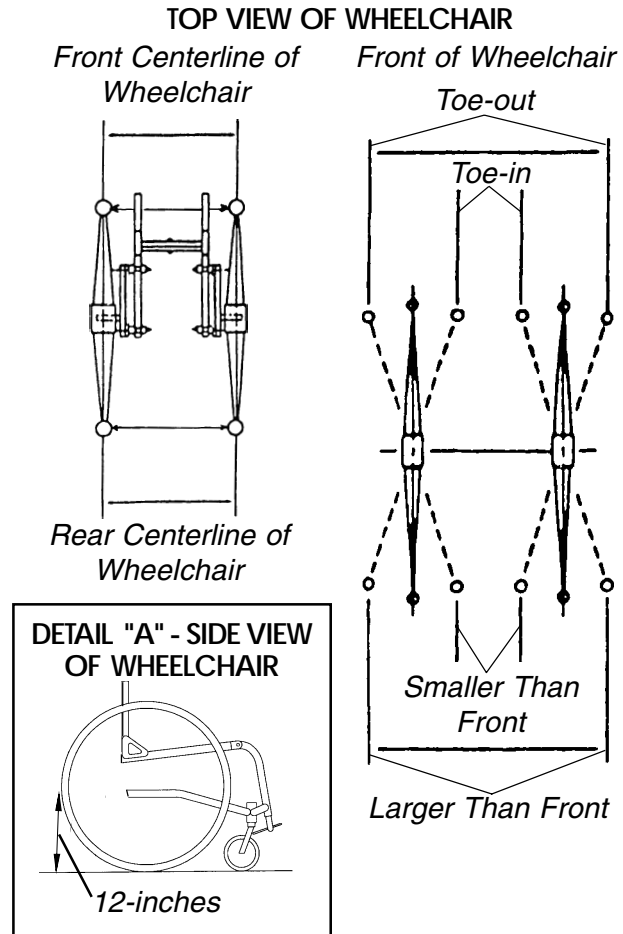

FIGURE 7 - DETERMINING TOE IN/TOE OUT
DETERMINING TOE IN/TOE OUT (FIGURE 7)
2. Measure the distance between the centerlines at the rear and front of the rear wheels at approximately 12-inches from the ground/floor (FIGURE 7).
3. Determine the difference between the two (2) measurements. If the **difference** between the **two (2) measurements** is **NOT** within **$\pm 1/8$ -inch**, one (1) of two (2) conditions exists:
- A. If the **back centerline measurement** of the rear wheels is **SMALLER** than the **front centerline measurement** of the rear wheels, a **TOE-OUT** condition exists (FIGURE 7).
- B. If the **back centerline measurement** of the rear wheels is **LARGER** than the **front centerline measurement** of the rear wheels, a **TOE-IN** condition exists (FIGURE 7).